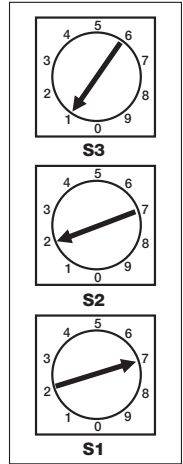

FIGURE 4b
- 6. Finally the DMX address should be set for M4-DMX units. The top switch (S3) is the “hundreds” unit for the address, the middle switch is the “tens” unit, and the lower switch (S1) is the “ones” unit. Addresses may be set from 1 to 501. This unit “uses” twelve addresses (so address-501 uses addresses 501 to 512 for example). To set the unit to base address 127 set the S1, S2 & S3 switches as follows (See FIGURE 4b):
SETTINGS FOR FIGURE 4B